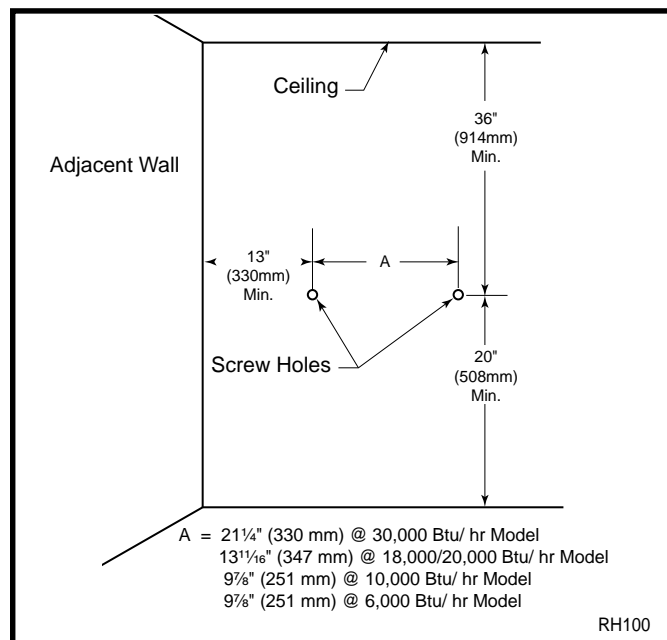

Fig. 2 Minimum clearances to floor, adjacent walls and ceiling.
5. Adequate clearance must be available around the air opening. Refer to Figure 2 for clearances that must be maintained to the side walls, floor and horizontal surface surrounding the heater.